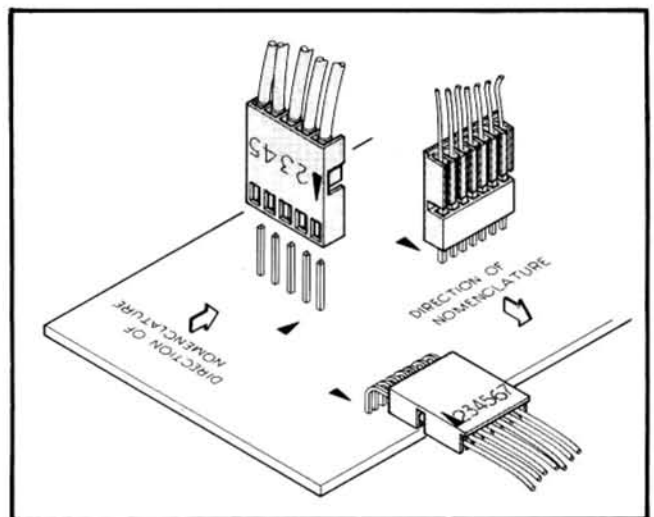

Fig. 6-1. Multipin circuit board connectors.
**Multiple Terminal (Harmonica) Connector Holders.** Most intercircuit connections, are made through pin connectors which may be mounted in a harmonica type holder. The terminals in the holder are identified by numbers. Connector orientation to the circuit board is keyed by triangles on the holder and the circuit board (see Fig. 6-1). Some connectors contain more than one section, so sections can be disconnected for easier troubleshooting. All connectors are identified on the schematic and board with 'P' numbers.